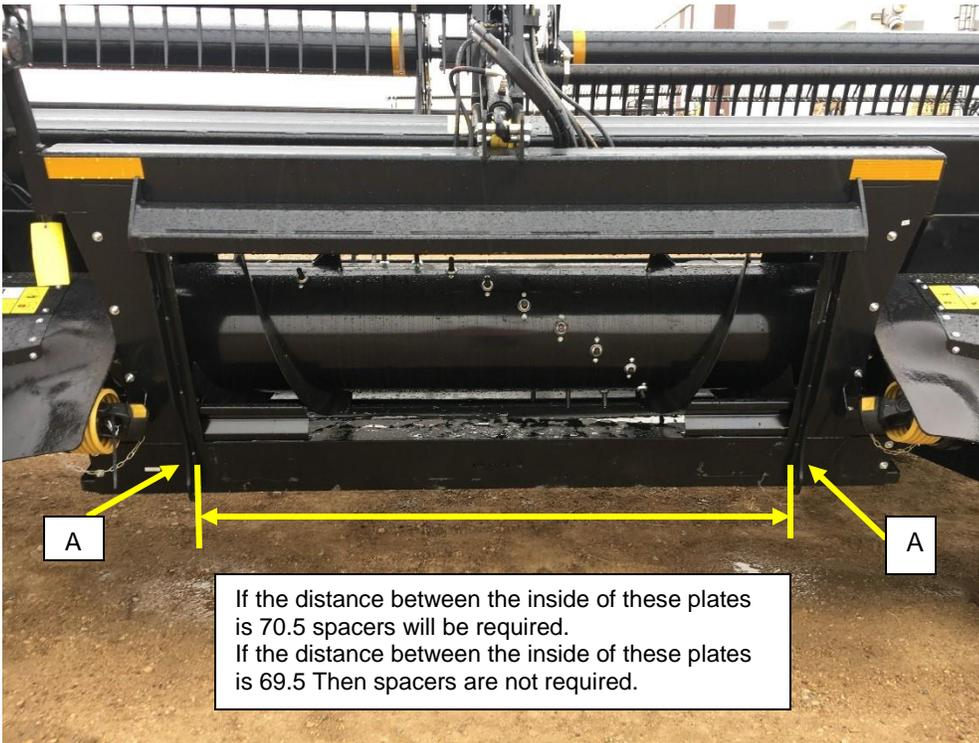

Figure 1
- Locate the tabs at the bottom of the adapter plate on the back of the header, A, Figure 1. If the internal width between the inside mounting